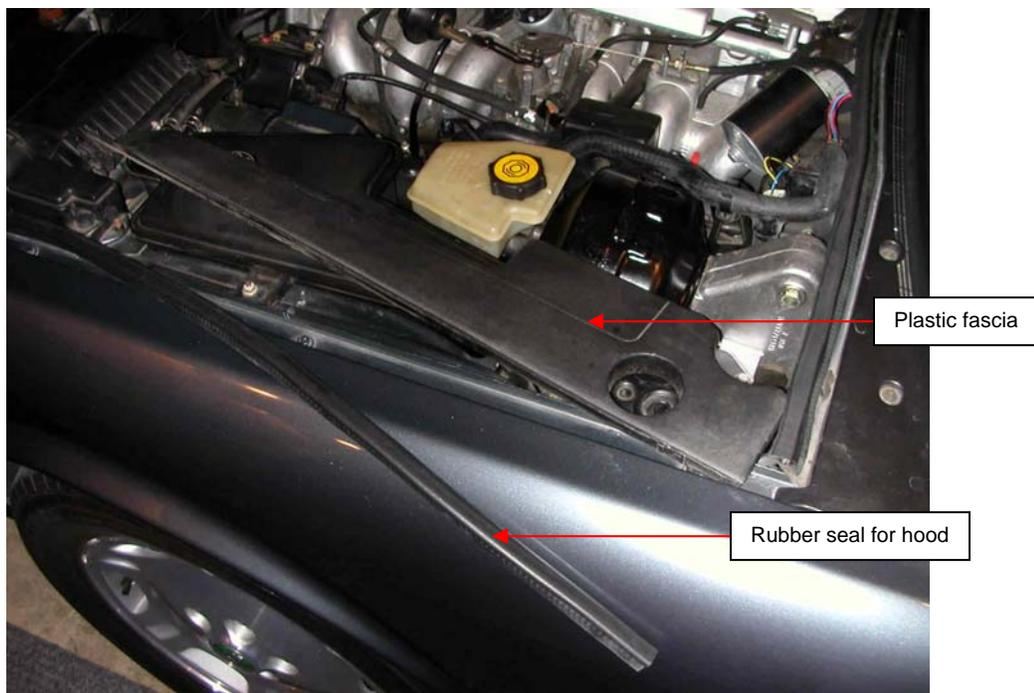

Fig. 6
6. Raise the hood/bonnet. Remove the plastic fascia attached beneath the hood/bonnet rubber strip on the fender (Fig. 6).